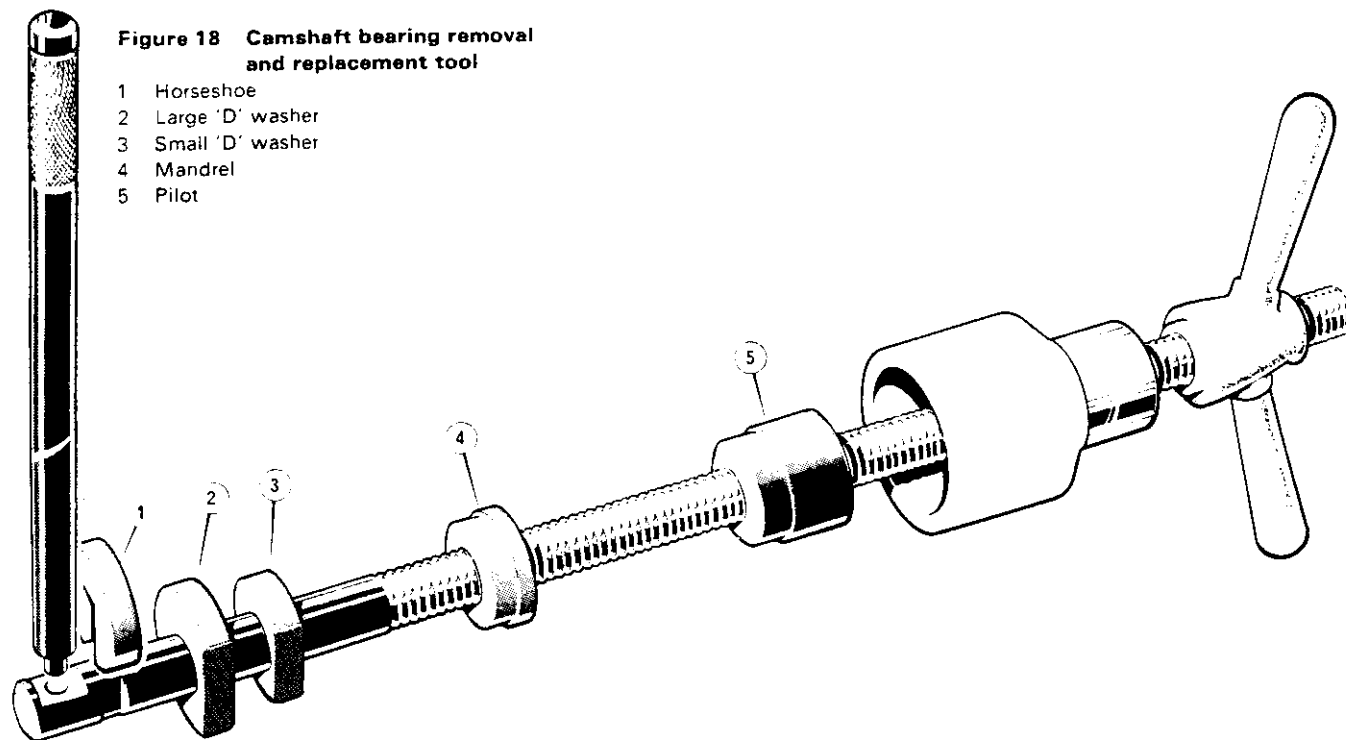

Figure 18 Camshaft bearing removal and replacement tool
4. Press out the rear, centre and front camshaft bearings using general tool 18G 124A and tool No. 7482 (**Figure 18**) as follows: